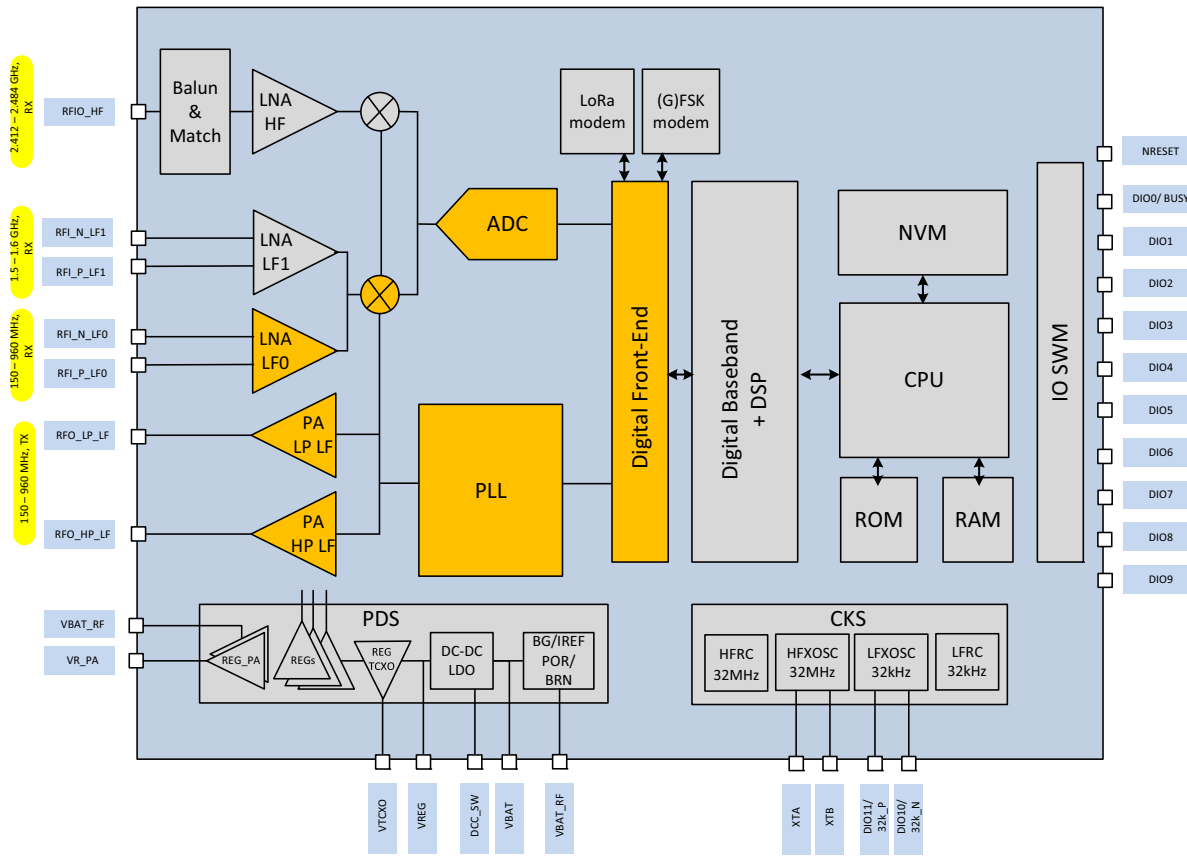

Figure 7-1: Sub-GHz Radio
The sub-GHz radio system is shown in figure Figure 7-1: Sub-GHz Radio here below. It is composed of the frequency synthesizer (also referred as PLL), two TX paths (High Power and Low Power), and a RX path, followed by a high-bandwidth ADC. Both the ADC and the PLL are tied to the digital subsystem and to the LoRa® and (G)FSK modems.